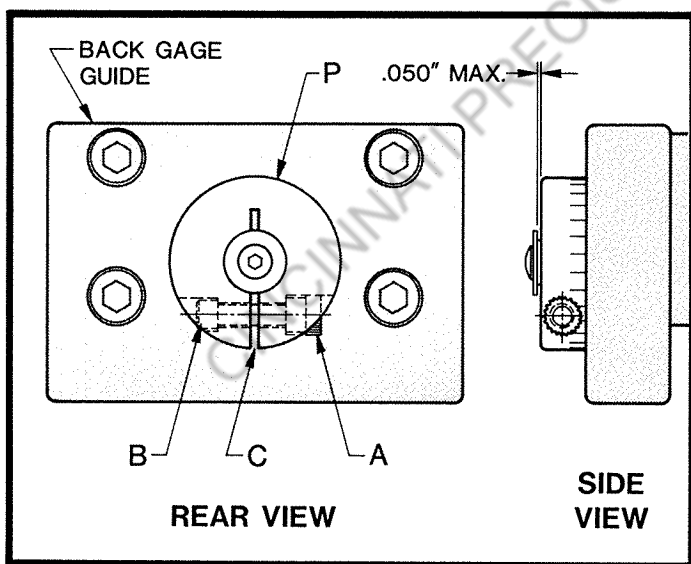

FIGURE 84
6. Parallel the back gage to the lower knife - Shears with back gage connecting shaft at front of back gage guide. See Figure 84.